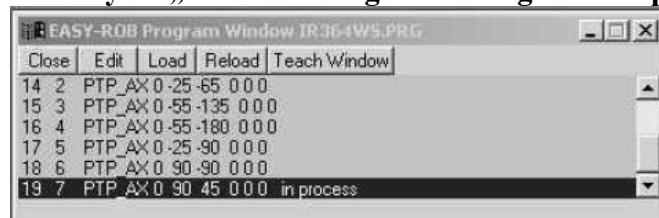

Fig. 2.12 Program window to trace execution
- in command execution layer: „Simulate\Program's\Program Output” (Fig. 2.12)